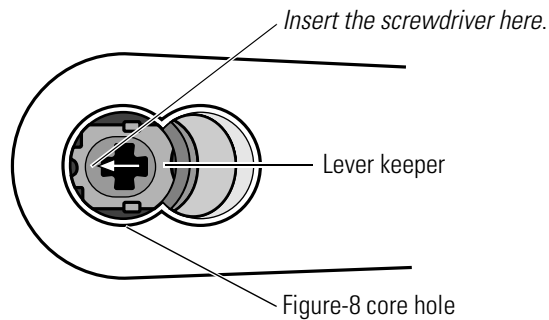

Figure 3.1 Removing the keyed lever
4. Press the screwdriver blade in the direction of the arrow in Figure 3.1.